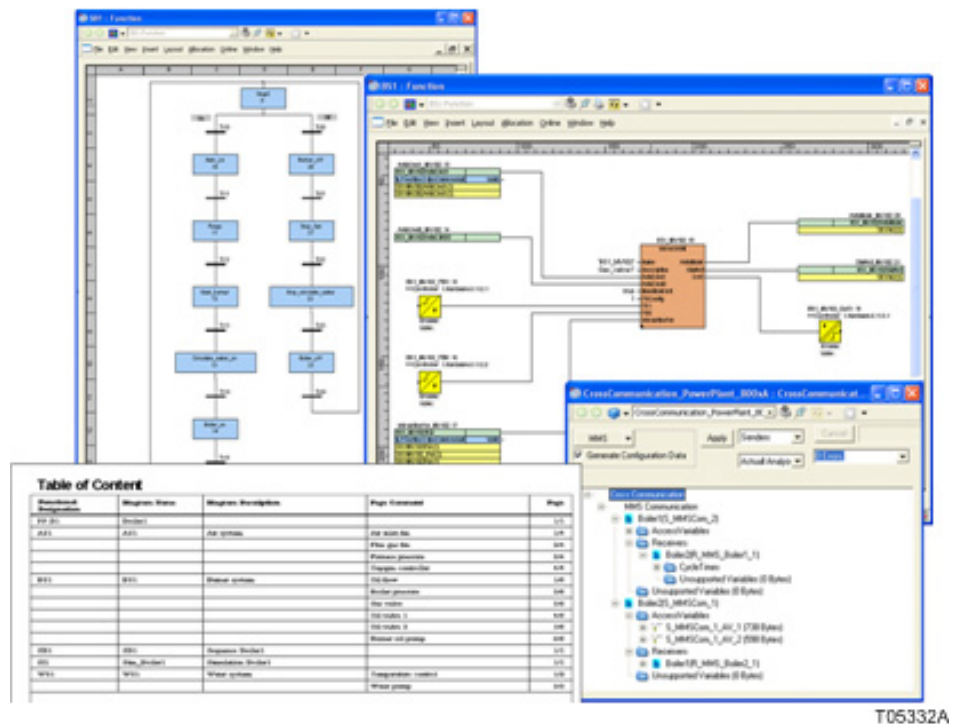

Figure 30. Function Designer
**Function Designer** (Figure 30) is used to engineer the automation system configuration from a process perspective. It is embedded in Control Builder and is a comprehensive editor, which allows engineering of a complete control loop on a single diagram comprising of functions, function blocks, control modules, sequences, and I/O channels. It supports design and online debugging. Function diagrams can be nested in multiple levels and the signal interconnections between function diagrams are automatically documented and provide built-in navigation.